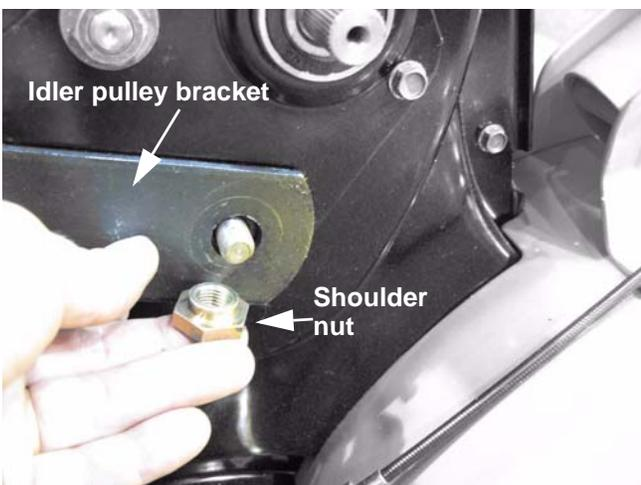

Figure 2.11
6. Remove the shoulder nut that holds the arm to the chain case using a 3/4" wrench. See Figure 2.11.